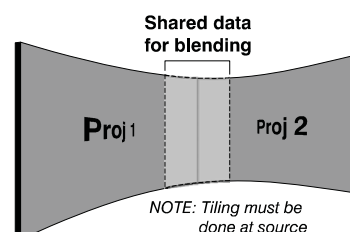

Figure 3-50 Tiling Example
**Before You Begin.** Make sure your source hardware and/or software can supply a tiled image for the number of projectors in use, and that the tiling includes overlapping data of approximately 12.5-25% along shared edges (see Figure 3-50). Tiling is not built into this model of projector.